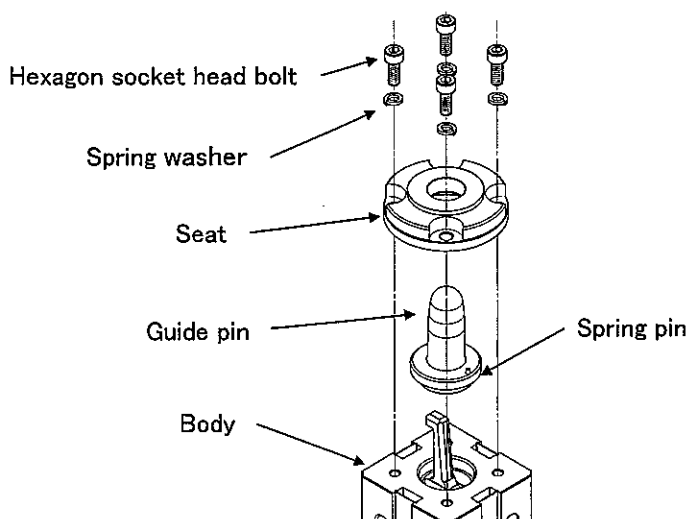

Fig. 7-16
- Insert the guide pin into seat. (Fig. 7-16)
- Insert spring washer and hexagon socket head bolt into the seat in written order and assembled on the body precisely. (Fig. 7-16)